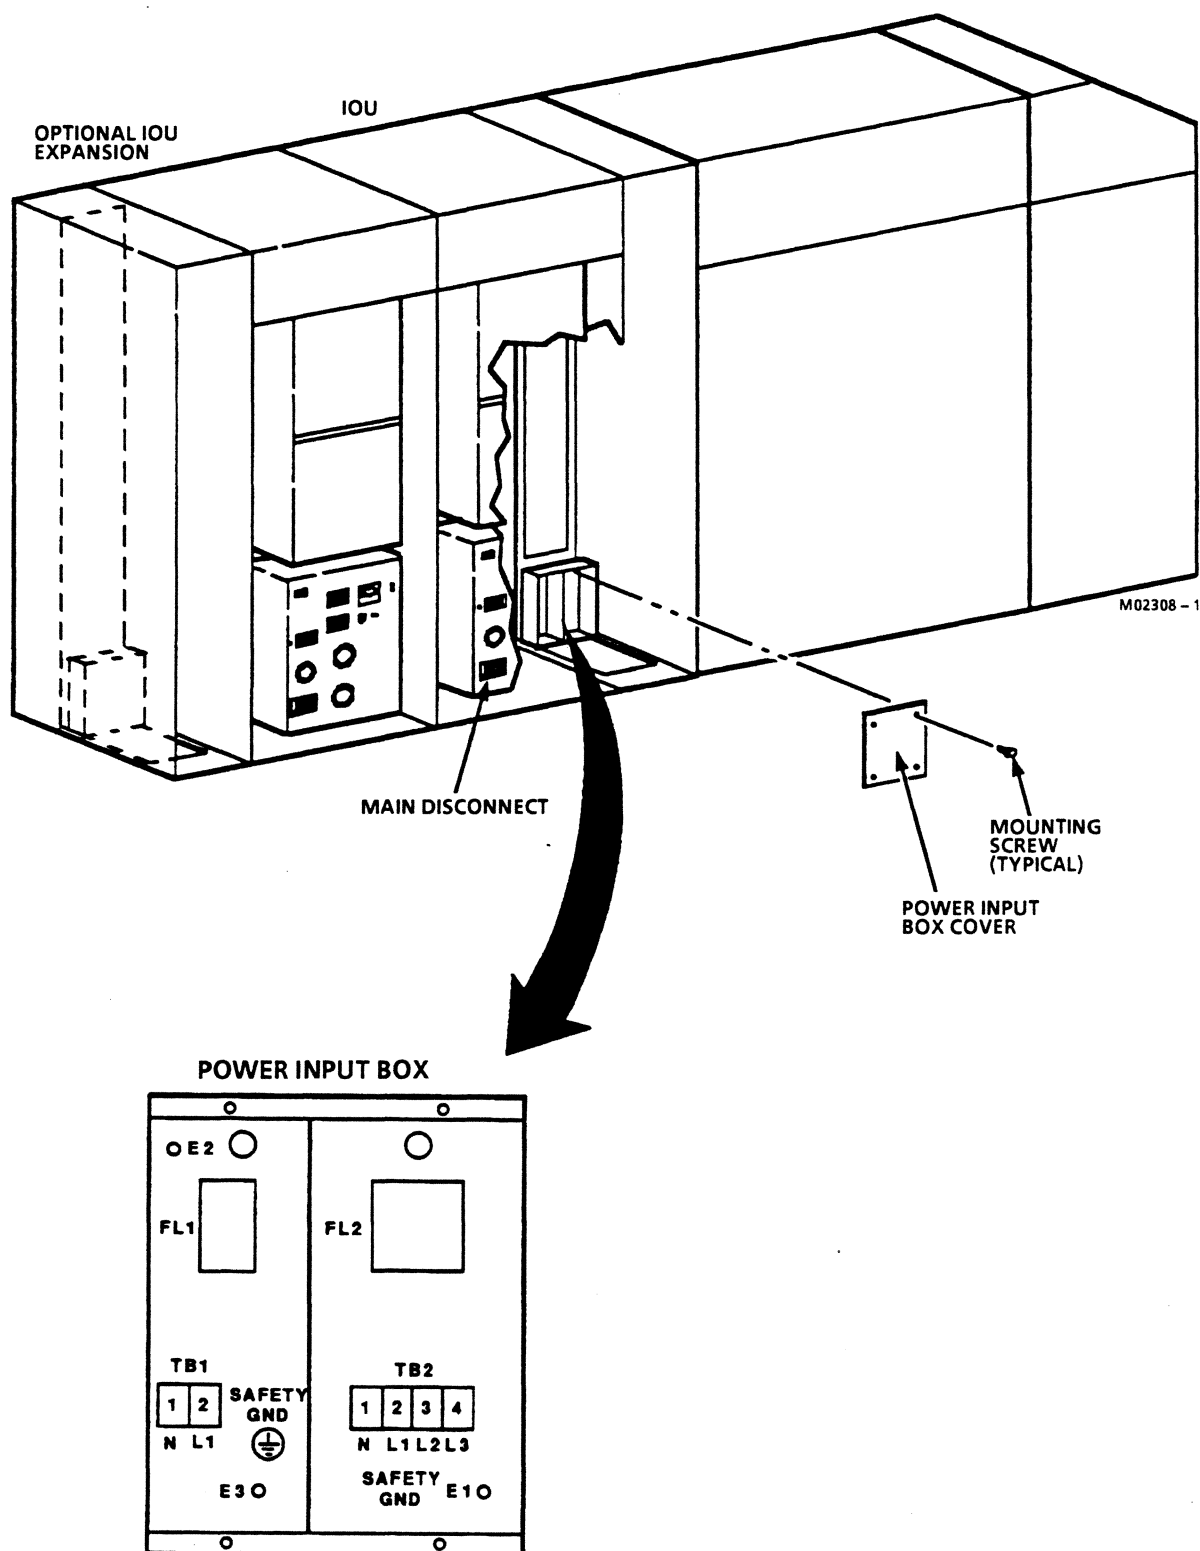

Figure 2-60. IOU 50/60-Hz Input Voltage Check
- ___ 4. Use voltmeter to check that site 1-phase, 50/60-Hz voltage is present at TB1 between terminals 1 and 2 (figure 2-60). Correct any voltage or wiring problems before continuing.